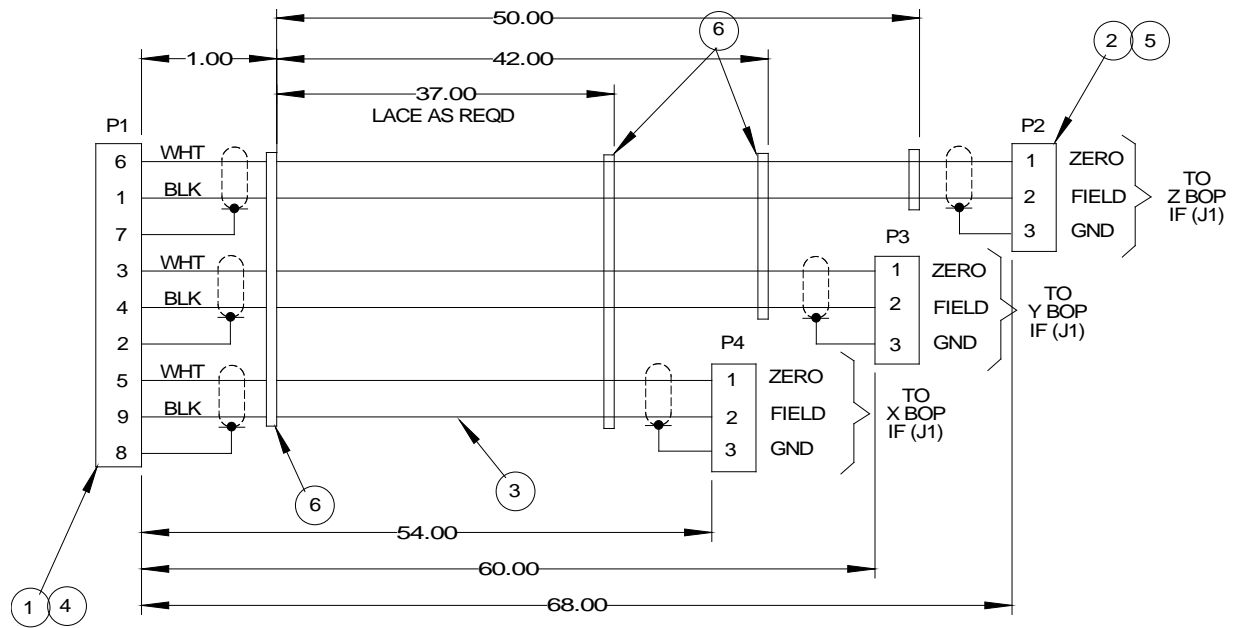

Figure 17 CCM-3 to BOP IF Cable Assembly
- Untie the white cable in the rack and connect the Molex connectors to their associated field BOP IF PCBs and the 9-pin D connector to CCM-3 J5 (refer to Fig. 17, 18 and 19).